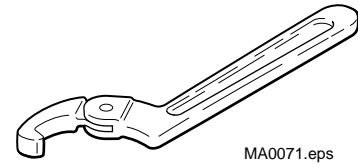

Figure 27. Claw Type Spanner Wrench..
2. Use a claw type spanner wrench to remove the retainer. See Figure 27.